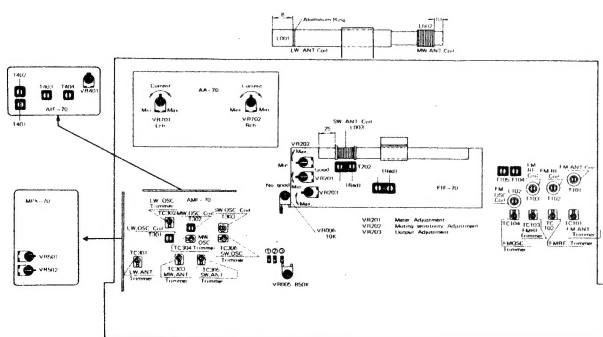

Figure 2
- Set the Aluminium ring of L001 (Ant. coil) as shown in Figure 2.
- Set L002 (Ant. coil) as shown in Figure 2.
- Set L003 (Ant. coil) as shown in Figure 2.